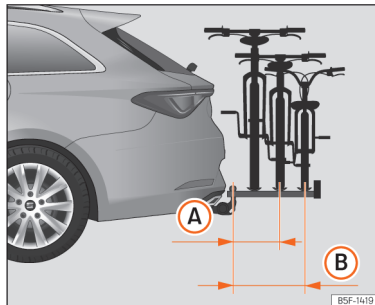

Fig. 199 Schematic representation of the maximum load overhang of a bicycle rack for two or three bicycles.
- (A)** With up to 55 kg load capacity: 500 mm (approx. 19.7 in)
- (B)** With 75 kg load capacity: 700 mm (approx. 27.6 in)
The maximum overhang shall not exceed 500 mm from the centre of the ball head to the centre of the rail of the last support » **Fig. 199 (A)** for two-bicycle racks. In the case of three-bicycle racks, the overhang must not exceed 700 mm » **Fig. 199 (B)**.